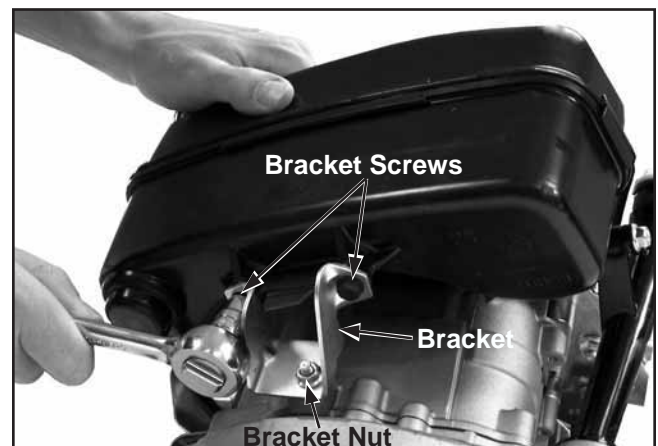

Figure 10-33. Attaching Fuel Tank Bracket.
1. Attach the fuel tank bracket to the tank (if removed) with the two bracket screws. See Figure 10-33. Torque the screws to 4.5 N·m (40 in. lb.).
2. Loosely attach the fuel tank bracket to the crankcase with the hex flange nut. See Figure 10-33.
5. Secure the fuel tank bracket to the crankcase by torquing the hex flange nut to **8 N·m (71 in. lb.)**. See Figure 10-33.